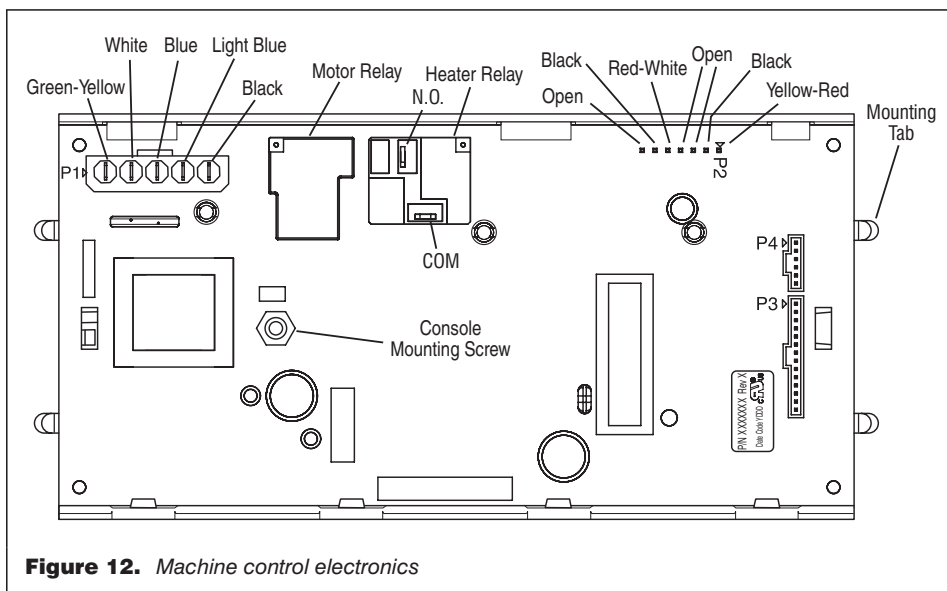

Figure 12. Machine control electronics
- Disconnect the ribbon cables at P3 and P4 on the machine control electronics. See figure 12 on page 7 for connector locations.
3. Remove all the wire connections to the machine control board. See figure 12, page 7.